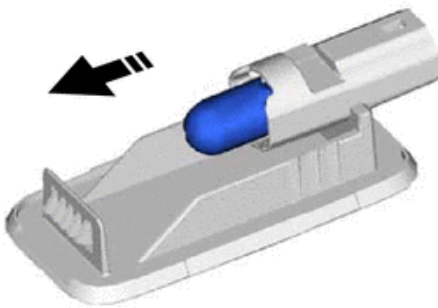

Figure 54
b) Remove the luggage compartment light bulb from the No. 1 luggage compartment light lens as shown in the illustration. Figure 54